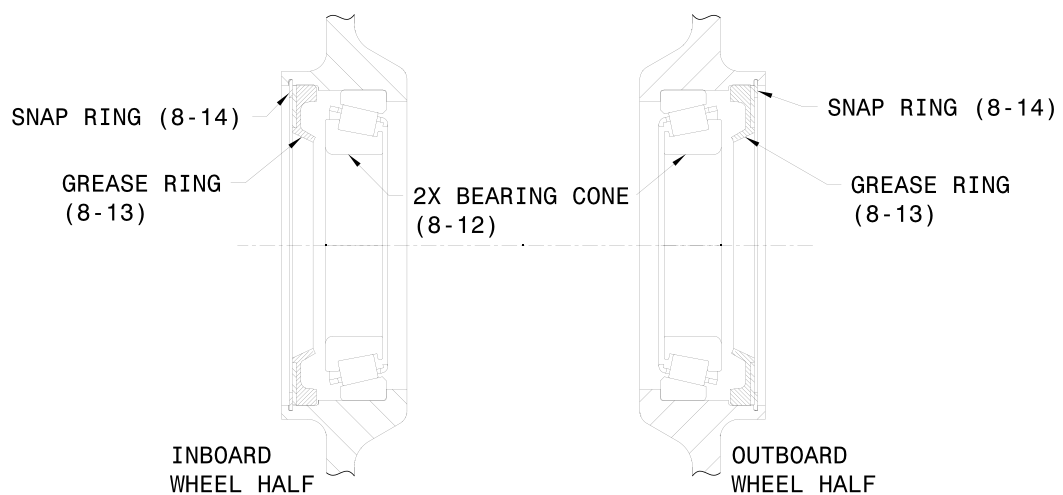

Figure 7 Nose wheel assembly grease seal components
d. Refer to Figure 7 and install the following components.